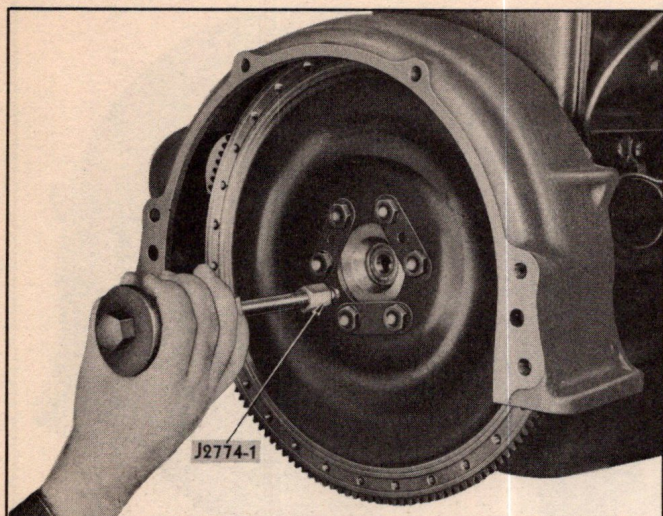

Fig. 227—Removing Dowel with Special Tools
2. Remove flywheel to crankshaft dowel, using tool J-2774-1 and J-2153 (Fig. 227). Dowel must be tapped ($\frac{5}{16}$ "—24) for tool J-2774-1.